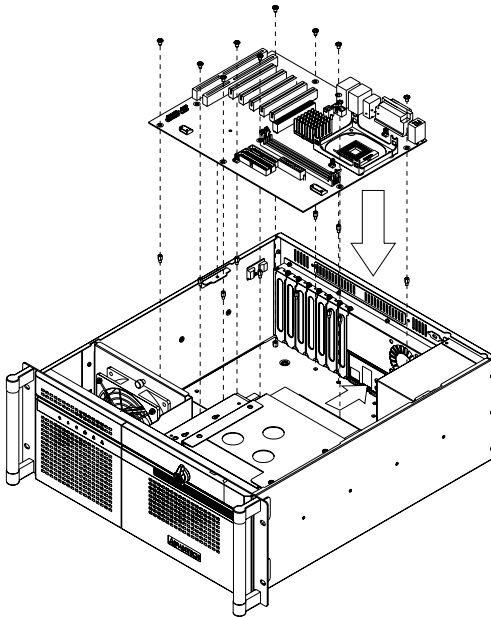

Figure 2.2: Installing a motherboard
3. Refer to Figure 2.2, and, from inside of the chassis, attach the motherboard I/O shield to the rear plate of the chassis.
5. Refer to Figure 2.2, place the motherboard into the chassis, and fix it with screws.